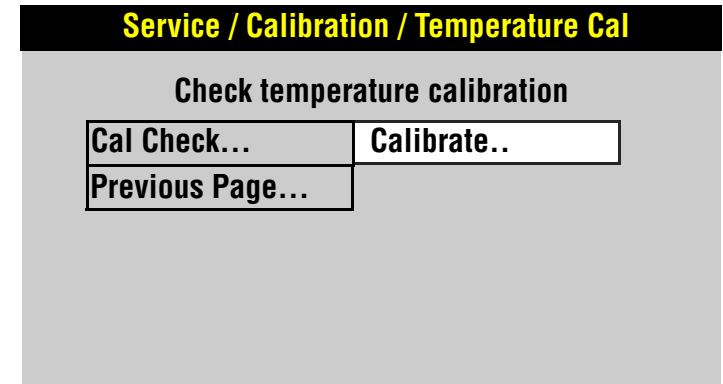

Figure 6.4—Temperature calibration selection
4. Select the Temperature Cal from the Service /Calibration menu. The screen shown in Figure 6.4 appears.